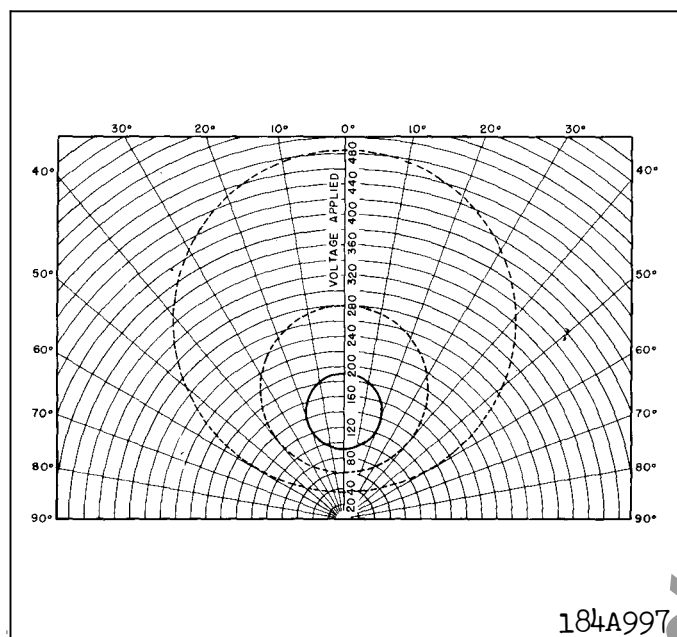

Fig. 6. Typical Voltage - Angle Characteristic of CVE for Various Closing Angle Settings. Rated Voltage on One Circuit.
The type CVE relay can be adjusted for operating circles from 20 to 60 degrees as shown in Fig. 6. As shipped from the factory the relay is calibrated for the 20 degree circle. These circles apply when one side has rated voltage. The relay operates, if the other voltage falls within the appropriate circle.
2. Operating Circle - Connect the relay per the test diagram of Fig. 10. The contacts should just close when V_2 is within ± 4 volts of the values shown in Fig. 6 for different angles on the 20 degree circle when V_1 is equal to rated voltage.